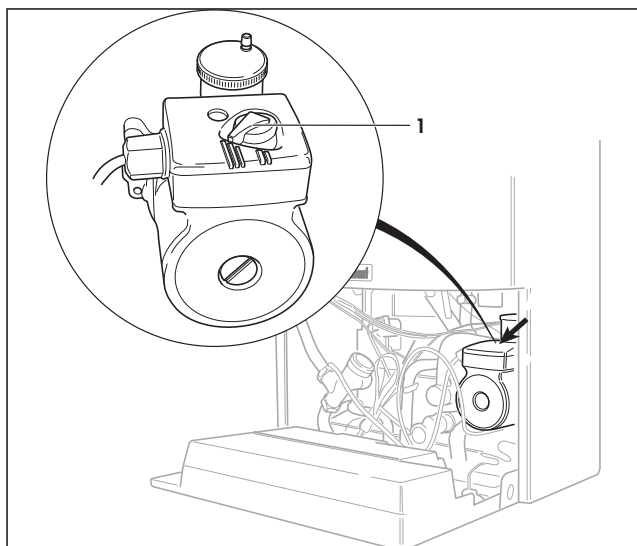

Fig. 8.4: Pump speed
The unit is fitted with a two-speed pump. The pump is delivered with the switch (1) set to position III (Fig. 8.4.).